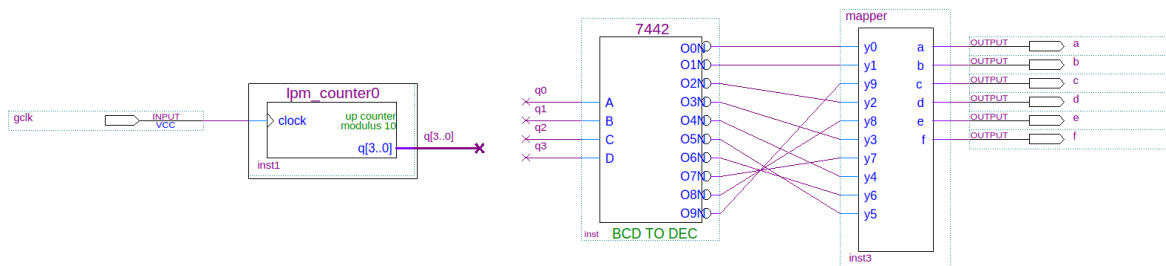

Figure 2.9: The complete circuit minus prescaler.
1. The final top-level file should look like Figure 2.9.